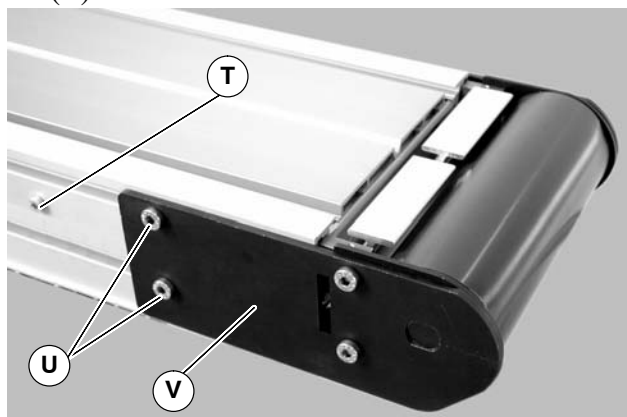
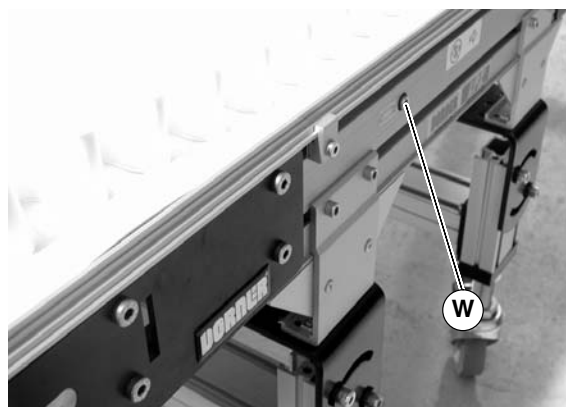

Figure 15
Figure 16
2. On tension end of the conveyor, identified by the pinion locking screw (T of Figure 15), push in head plate assembly (V): Loosen the pinion locking screw (T), adjust the pinion torque screw (W of Figure 16). On both sides of conveyor, loosen the two tail clamp bolts (U of Figure 15), and push head plate assembly (V) inward.